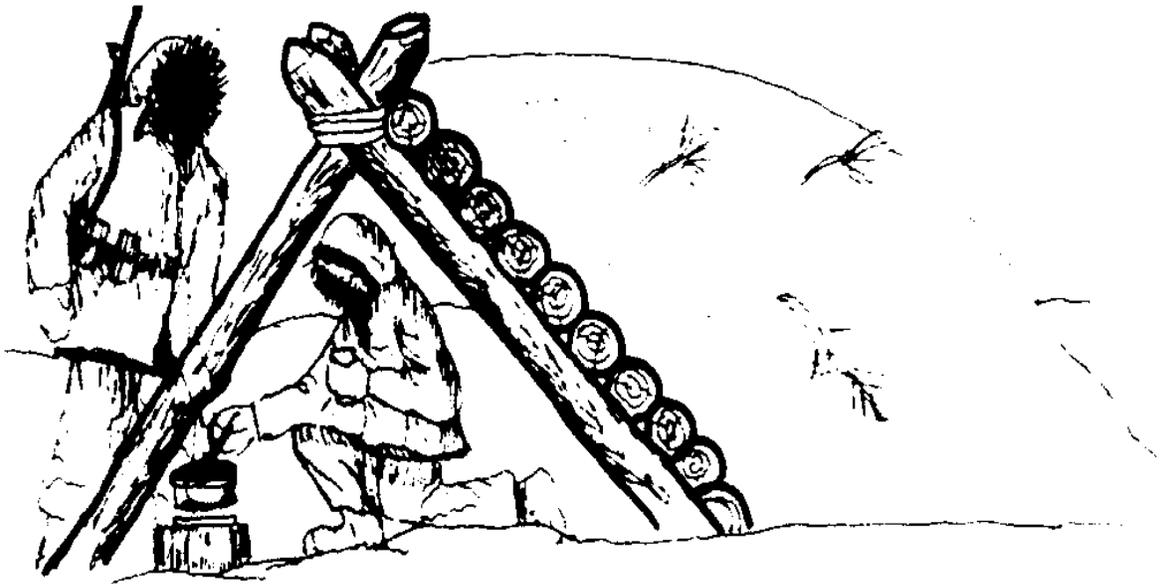

Fig. 13-3a
- b. Tripod Supported Wall - Construct tripods as in Fig 13.3a and 13.3b. This type of structure provides a limited degree of overhead protection.